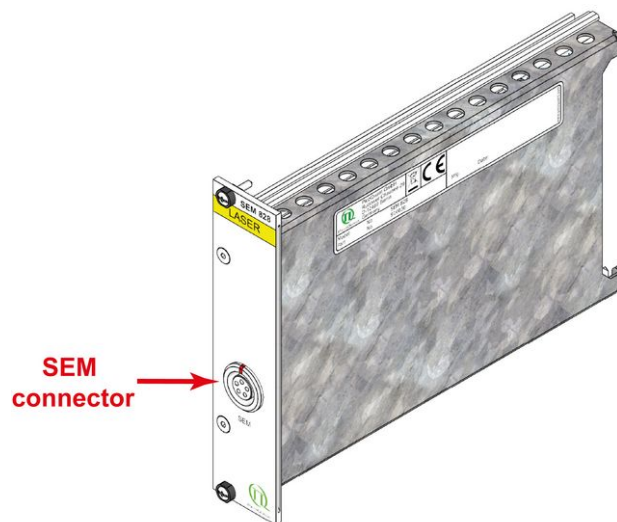

Fig. 13: Sepia Extension Module (SEM 828) with connector
2. Install an SEM 828 (see Fig. 13) into the Sepia PDL 828 (if not already present). Refer to the manual of the Sepia PDL 828 for detailed instructions